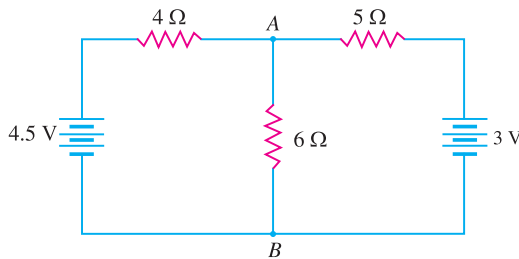

Fig. 1.50
4. Using Norton's Theorem, find the current in branch AB containing 6 Ω resistor of the network shown in Fig. 1.50. **[0.466 A]**